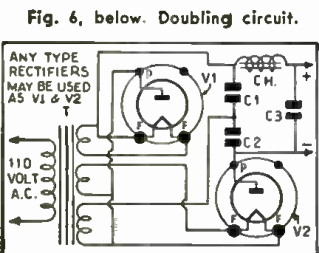

Fig. 6, below. Doubling circuit.
**HIGH-VOLTAGE SUPPLY.** The voltage-doubling circuit is well known in A.C.-D.C. sets, but experimenters often do not realize it can also be used with a transformer. The circuit is shown in Fig. 6, and it will be seen that a separate filament winding is needed